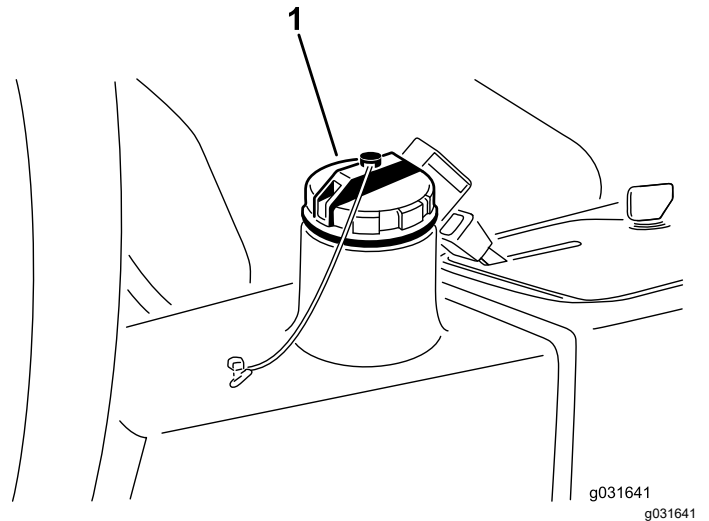

**Figure 66**
2. Disconnect the hydraulic line or remove the hydraulic filter and let the hydraulic fluid flow into a drain pan (Figure 68 and Figure 66).
3. Install the hydraulic line when the hydraulic fluid stops draining (Figure 66).